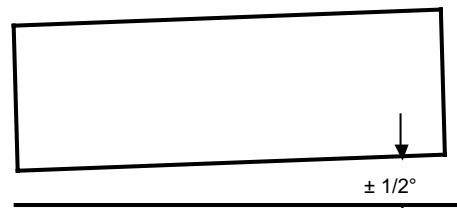

Figure 16. Coil Module Level Tolerance as Seen from the Plenum Side
- Lift the coil module and verify that it is level. Adjust lifting devices as necessary to level the coil module before attempting to set. The coil connection of the coil module weighs more and will affect the balance. Tolerances are given in **Figures 16** and **17**.